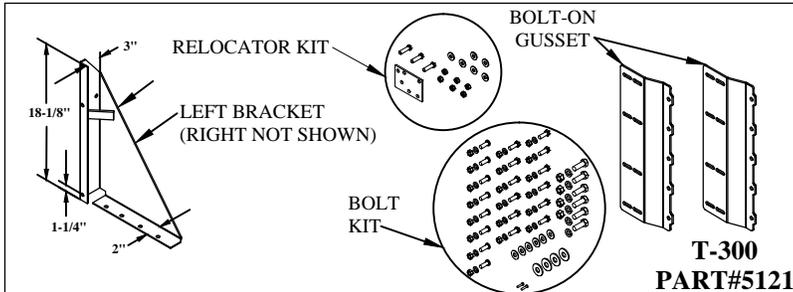

Figure 1: T-300 Part Identification.
2. **Verify** mounting bracket kit (Figures 1 and 2 and Tables 1 and 2).